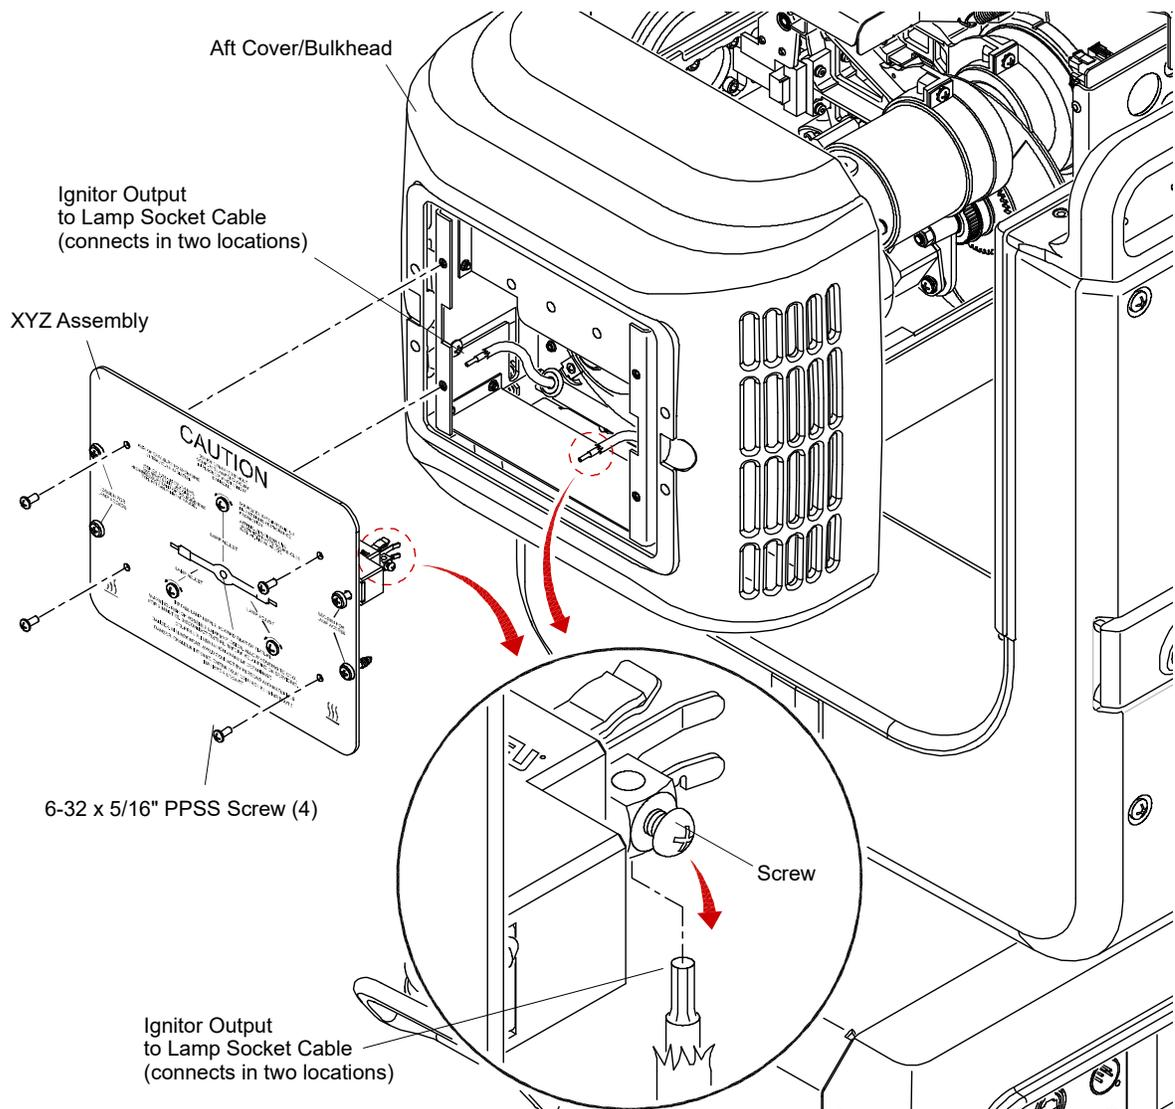

Figure 3-3: Removing XYZ Assembly
- Step 3. Remove four 6-32 x 5/16" PPSS screws which secure XYZ Assembly in place (**Figure 3-3**).
- Step 4. Disconnect Ignitor Output to Lamp Socket Cable from two locations by loosening screws. (Refer to detail in **Figure 3-3** below.)